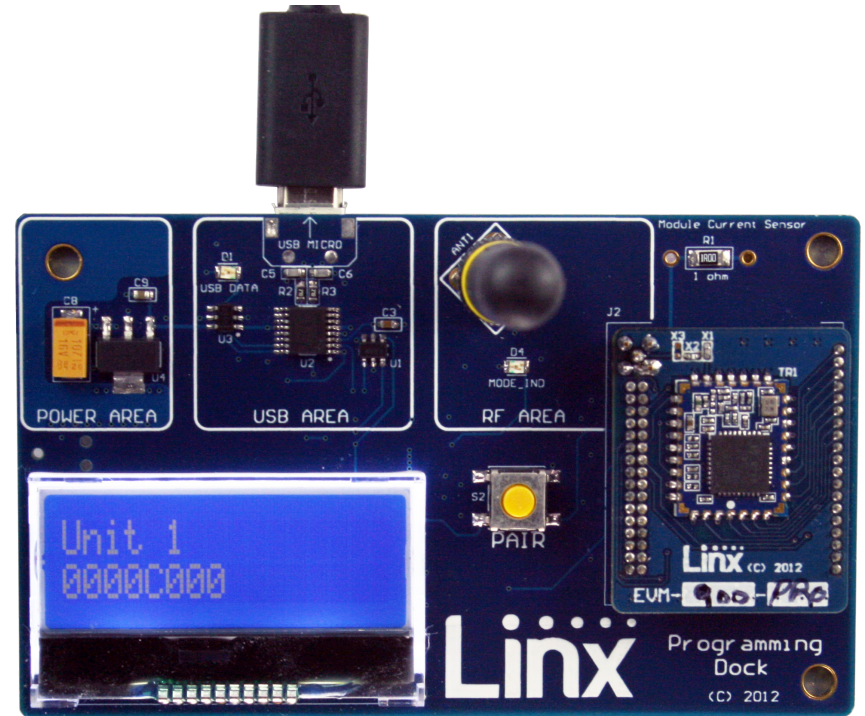

Figure 16: The Master Development System Programming Dock with Name and Address Displayed
3. A custom name that can be given to the module. Type a name into the box and press Enter to apply it. This name is shown on the LCD display on the programming dock (Figure 16).